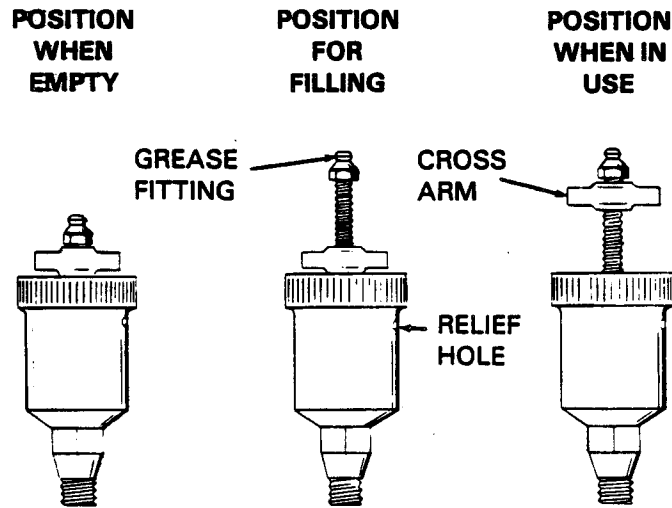

Figure 5. Automatic Lubricating Grease Cup
Fill the grease cup (7) through the grease fitting with No. 2 lithium base grease until grease escapes from the relief hole. Turn the grease cup arm counterclockwise until it is at the top of the stem; this will release the spring to apply grease to the seal (see Figure 5).